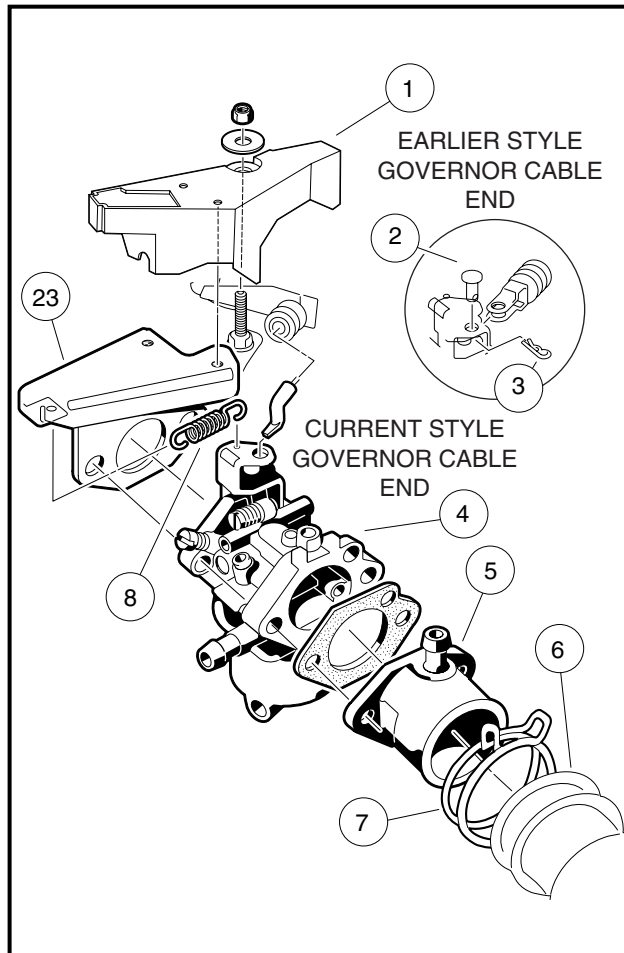

Figure 2-1 Carburetor Removal
1. Remove governor guard (1) (**Figure 2-1, Page 2-5**).
- 2.1. Remove cotter pin (3) and clevis pin (2) from throttle valve lever (**Figure 2-1, Page 2-5**).
- 3.1. Remove the 'Z' shaped cable end from the throttle valve lever (**Figure 2-1, Page 2-5**).
4. Remove nuts at carburetor intake pipe (5) and remove intake pipe (Figure 2-1, Page 2-5). See following CAUTION.
5. Remove carburetor (4) along with throttle spring (8) and throttle spring bracket (23) (Figure 2-1, Page 2-5).